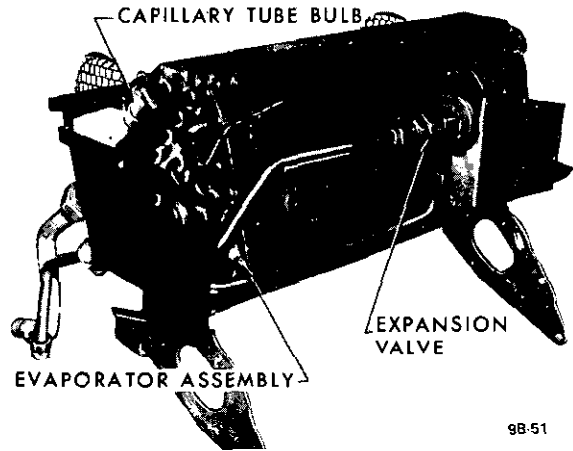

Figure 9B-70 Evaporator and Expansion Valve Assembly - Opel 1900 Manta
14. Disconnect expansion valve capillary tube bulb attached to the outlet pipe of the evaporator. See Figure 9B-70.